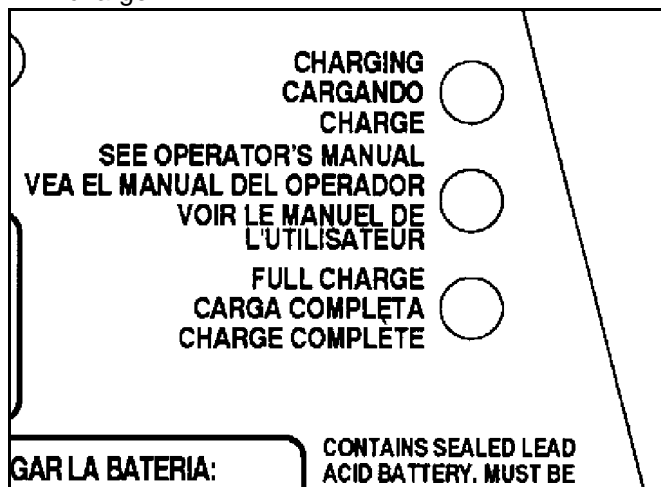

Figure 16
4. The three vertical LED lights on the control panel will indicate the charging status (Figure 16). Refer to the Charging Chart below (Figure 17) for a summary of the LED lights.